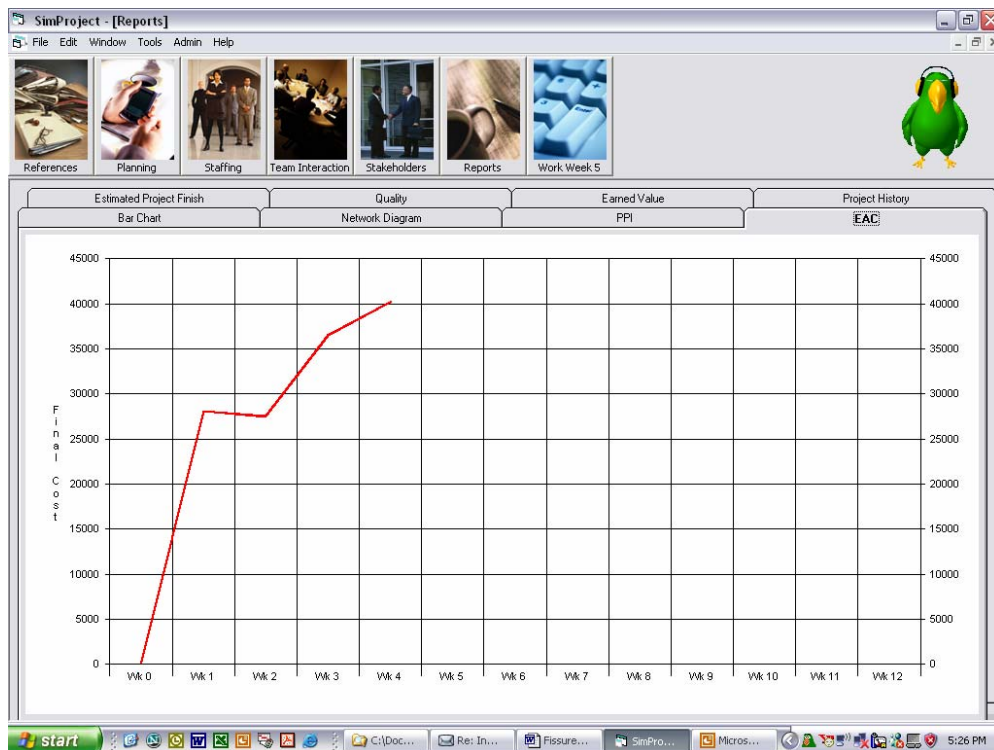

Figure 19 - Reports Screen – Estimate at Completion (cost)
- EAC – Estimate at Completion: cost (Figure 19)